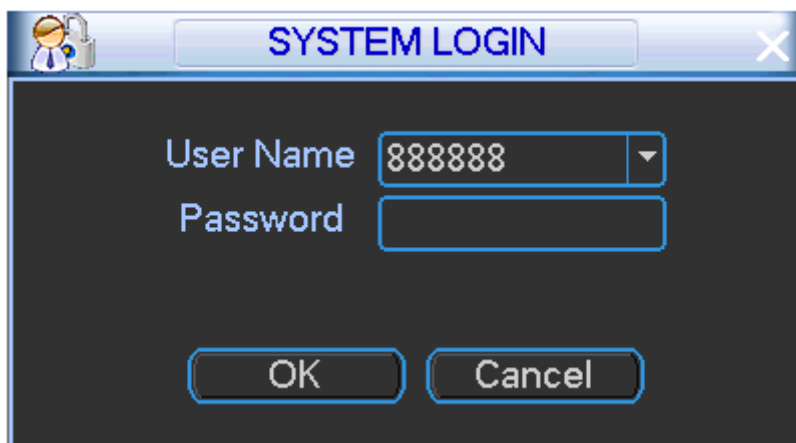

Figure 4-1
Step 1 After device booted up, right click mouse, system pops up the following dialogue box. See Figure 4-1.